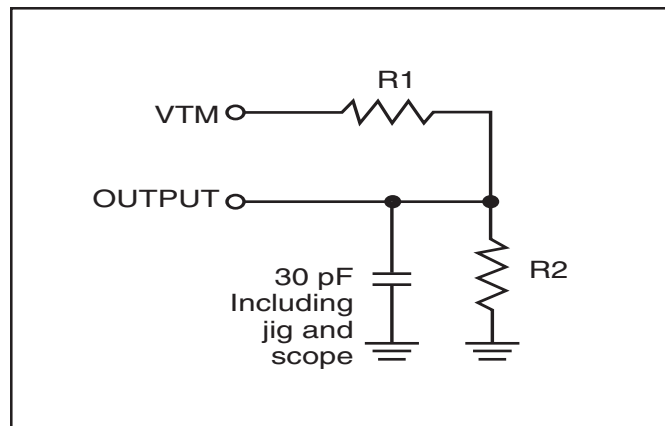

Figure 1
- Test conditions assume signal transition times of 5 ns or less, timing reference levels of 0.9V/1.5V, input pulse levels of 0.4 to $V_{DD}-0.2V/0.4V$ to $V_{DD}-0.3V$ and output loading specified in Figure 1.